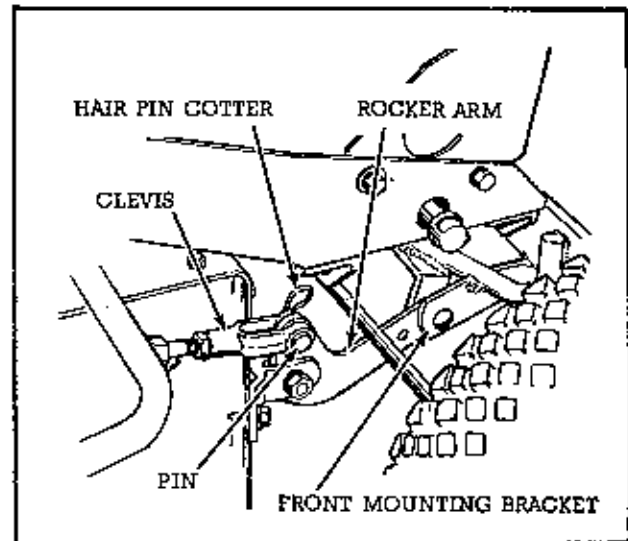

Fig. 2
2. Connect the rockers arms to front mounting brackets under the tractor, by using pins and hair pin cotters as shown in figure 2.